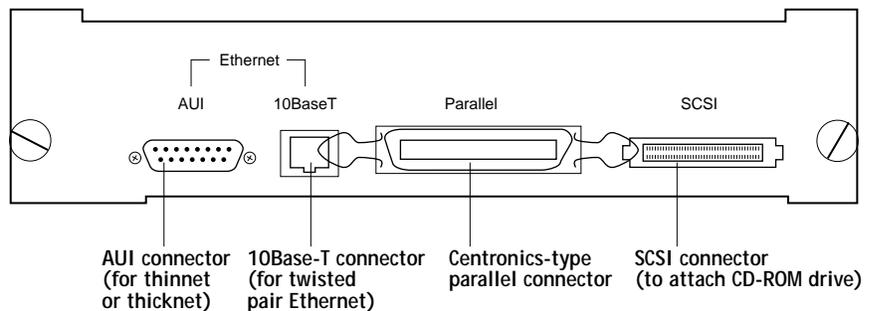

Figure 6-1 Back panel of printer showing connectors
- Check that all cables to the system are plugged into the proper connectors on the back panel of the printer (see Figure 6-1 below).